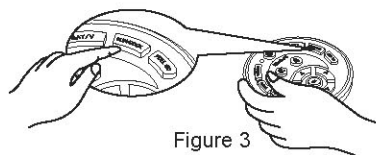

Figure 3
4. Press DOCKING in the remote control if you want to charge for the main body, the Cleaner will search the Docking Station for charging within available scope automatically. (Refer to Figure 3)